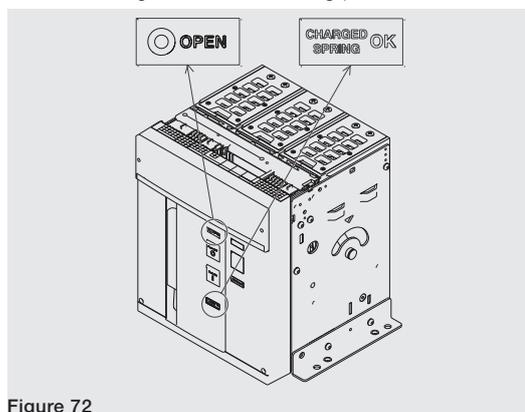

Figure 72
3. Check that the circuit-breaker is open (open/closed signalling device "O - OPEN"), and check that the springs are charged (springs signalling device "yellow - CHARGED SPRING") as indicated in Figure 72.